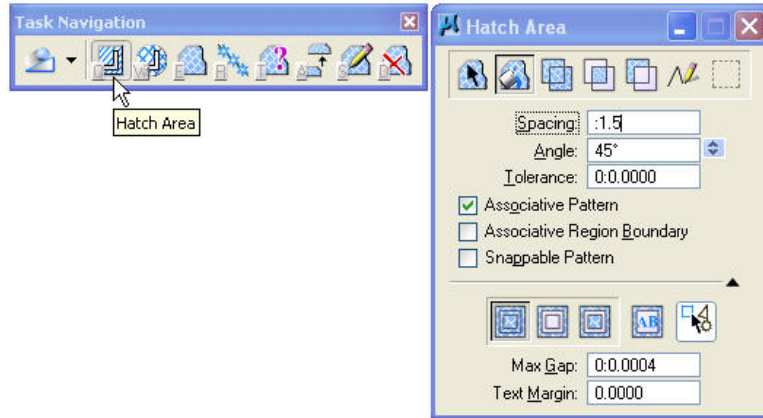

Figure P12-13 Required Hatch Area tool settings
STEP 7: Invoke the Hatch Area tool and in the tool settings box, make the tool settings shown in Figure P12-13.